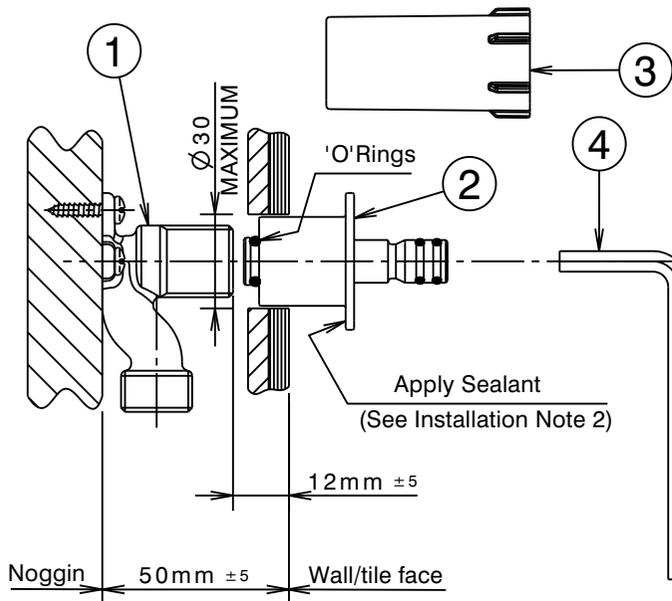

Fig. 1
- * Lugged elbow (1) must be installed square to finished wall/tile face.
- * In- wall depth 50mm±5 (Fig.1).
- * Hole size 30mm dia MAX (Fig.1)
- * Rough- in cap (4) is provided to assist the tiler.
- * Due to the special in- wall requirements of this tapware, a special lugged elbow (1) is supplied and MUST be used for new installations. If the shower arm is to be connected to existing pipework with a G1/2B thread protruding 8mm from the wall/tile face, a retrofit kit (SP6403.04) is available & must be used.
- 1) Fit the lugged elbow (1) onto a suitable noggin in the wall & secure using screws through the holes in its base. **Important:-** The lugged elbow must be installed at the correct depth & square to the wall/tile face. DO NOT CUT THE ELBOW. Check that rubber seal is in position inside rough- in cap (3) then screw cap (3) onto G1/2B thread of lugged elbow (1) and tighten by hand. Check all connections for leaks. **Note:** Rough- in cap (3) is also used as a guide for the tiler, to ensure hole in wall/tile face does not exceed Ø30mm.
- 2) When completing the installation, remove & discard cap (3). Apply a bead of sealant to the back face of retainer (2) (See Fig.1). Screw retainer (2) onto G1/2B thread of lugged elbow (1) by hand up to wall/tile face, taking care that 'O' Rings are not damaged as they enter bore of lugged elbow (1). Tighten retainer using 6mm allen key (4), so that sealant on retainer is compressed to provide a watertight joint & the retainer has bottomed against the wall/tile face. Wipe clean any excess sealant.